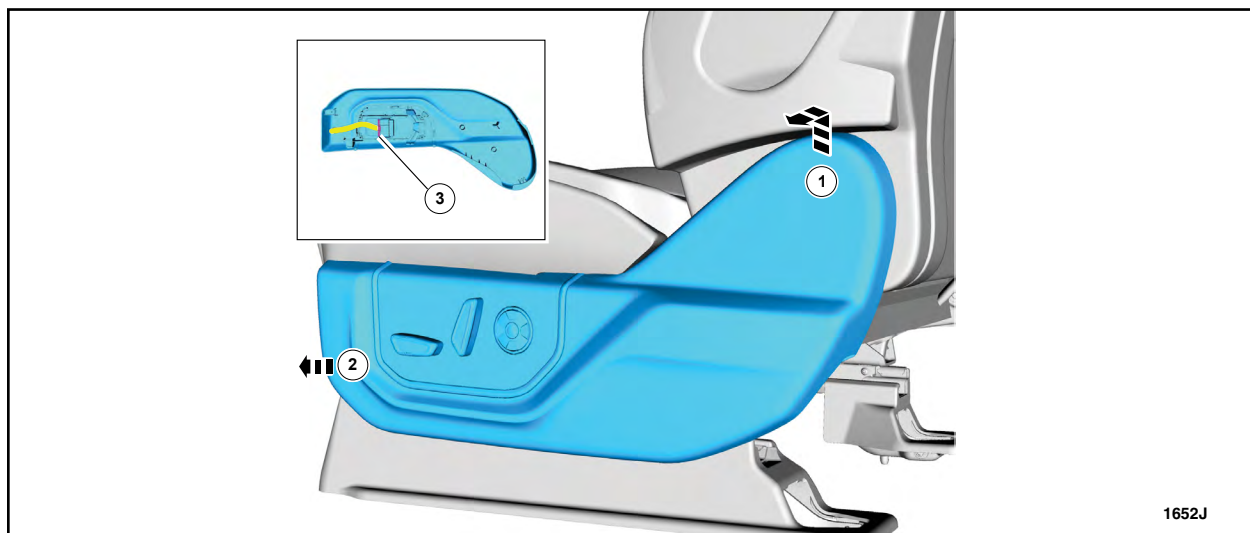

FIGURE 3
4. Position aside the side shield. See Figure 3.